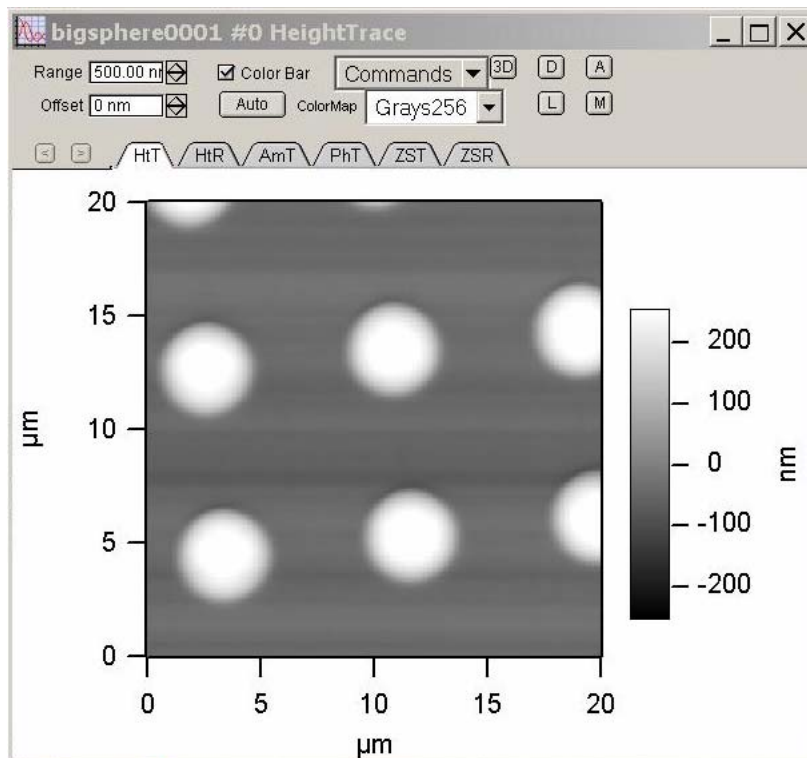

Figure 33: Display Window: un modified, off-line image recalled
- Once you choose a file, the image comes up with a bunch of analysis function buttons, range value windows, and pull-down menus (Figure 33). It's called a 'display window'.
- The tabs in the display window above the image represent the saved data channels. Figure 33 shows height Trace & retrace (HtT, HtR), Amplitude, Phase, Z sensor.